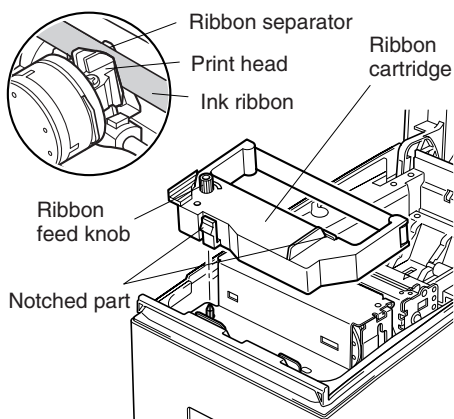

Fig. 5-2 Loading the ribbon cartridge
- ③ Place the ribbon cartridge in the direction shown in Fig. 5-2 and press it down to load it. If loading of the ribbon cartridge is not satisfactory, press down the cartridge while rotating the ribbon feed knob in the direction of the arrow.
- ④ Turn the ribbon feed knob of the ribbon cartridge in the direction of the arrow to remove slack in the ribbon.
- ⑤ Close the cover .